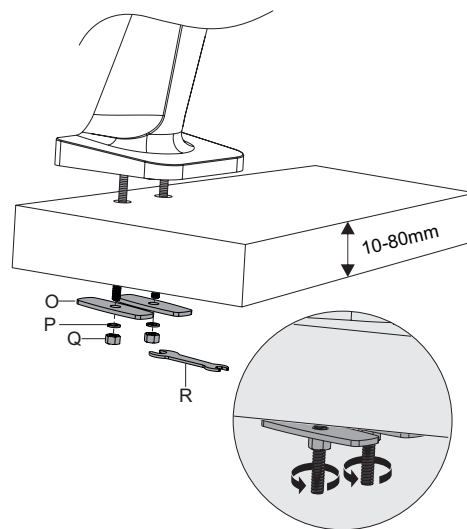

Figure 6
4. Secure it using Grommet Clamp (O), Washer (P) and Bolt (Q), see Figure 6.
6. Position the extension arm assembly onto the desktop and secure it using Grommet Clamp (O), Washer (P) and Bolt (Q), see Figure 6.